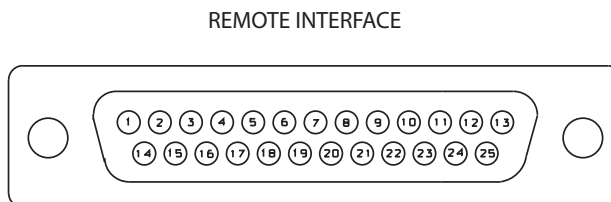

Figure 2-2: Wiring the 25-pin Remote Interface Connector
A) Connect two outputs from your station remote control system to the REMOTE INTERFACE connector on the rear panel of the 6300, according to the wiring diagram in *Figure 2-2* on page 2-3.
Optically isolated remote control connections are terminated in a type DB-25 male connector located on the rear panel. It is wired according to *Figure 2-2*. To select the desired function, apply a 5-12V AC or DC pulse between the appropriate REMOTE INTERFACE terminals. The (-) terminals can be connected together and then connected to ground at pin 1 to create a Remote Common. A current-limited +12VDC source is available on pin 25. If you use 48V, connect a 2kΩ ±10%, 2-watt carbon composition resistor in series with the Remote Common or the (+) terminal to provide current limiting.